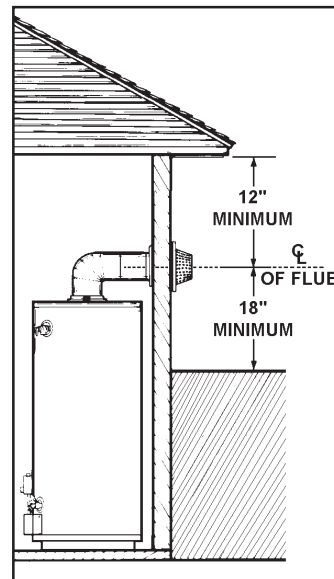

FIGURE 4
MAKE CERTAIN TO OBSERVE VENT LOCATION LIMITATION, SEE FIGURES 4 & 5.
- 18" minimum from the ground and 12" from ceiling overhangs, see Figure 4.